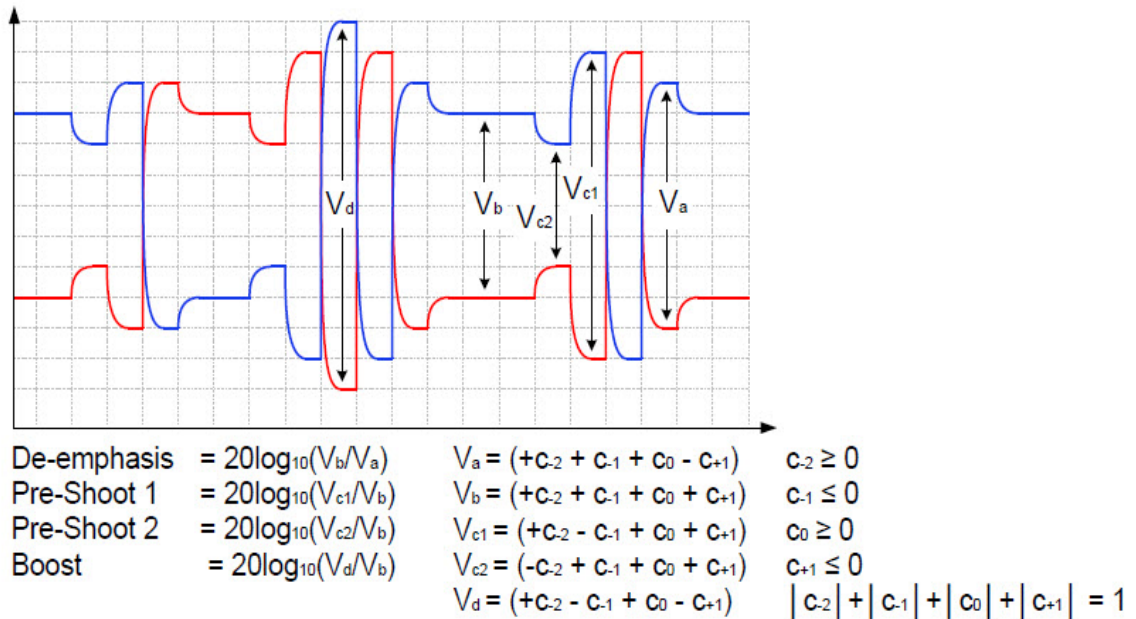

Figure 40 Waveform measurement points for preshoot and de-emphasis
64.0 GT/s PCIe signaling must support the full range of presets given in Table 8-2 (PCIe Base Specification Revision 6.0). Presets are defined in terms of ratios, relating the pre-cursor and post-cursor equalization voltages. The pre-cursor (V_c) is referred to as pre-shoot, while the post-cursor (V_b) is referred to as de-emphasis. This convention permits the specification to retain the existing 2.5 GT/s and 5.0 GT/s definitions for Tx equalization, where only de-emphasis is defined, and it allows preshoot and de-emphasis to be defined such that each is independent of the other. The tolerances in Table 8-1 (PCIe Base Specification Revision 6.0) also apply to 2.5 and 5.0 GT/s de-emphasis. The maximum swing, V_d , is also shown to illustrate that, when both c_{+1} and c_{-1} are nonzero, the swing of V_a does not reach the maximum as defined by V_d . The high frequency nature of PCIe signaling makes measurement of single UI pulse heights impractical. Consequently all amplitude measurements are made with low frequency waveforms as shown in Figure 40.
- 13 Computes their equalization voltages by using Matlab, and then calculates equalization ratios by using the formulae stated in Figure 40 (Figure 8-6 of the spec).